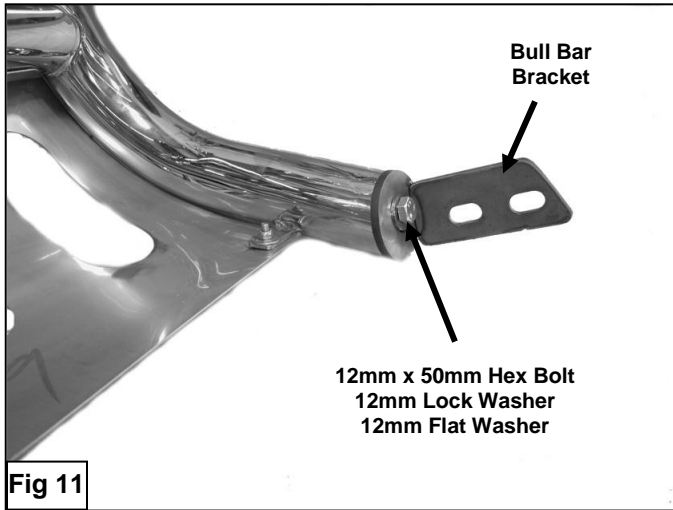

**Fig 9**
13. Partially hang Top Brackets to already installed Bolt Plates by using (2) 8mm Nylock Nuts and (2) 8mm Flat Washers (**Figure 9**). Do not tighten at this time.